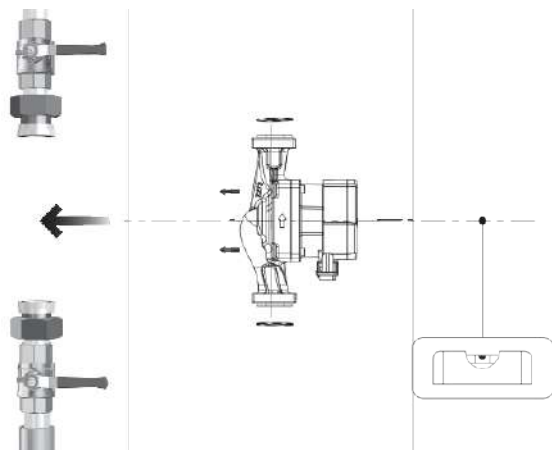

Fig. 3 Mounting the pump
2. Before the pump is installed in the piping, install the two gaskets supplied with the pump (see Fig. 3).